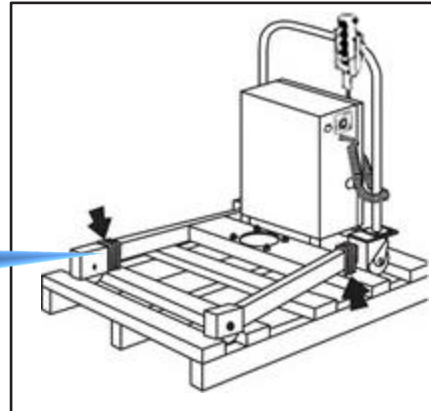

Figure 4
1. Cut the tie-down ropes holding the LifTILTruk to the pallet (Figure 4).